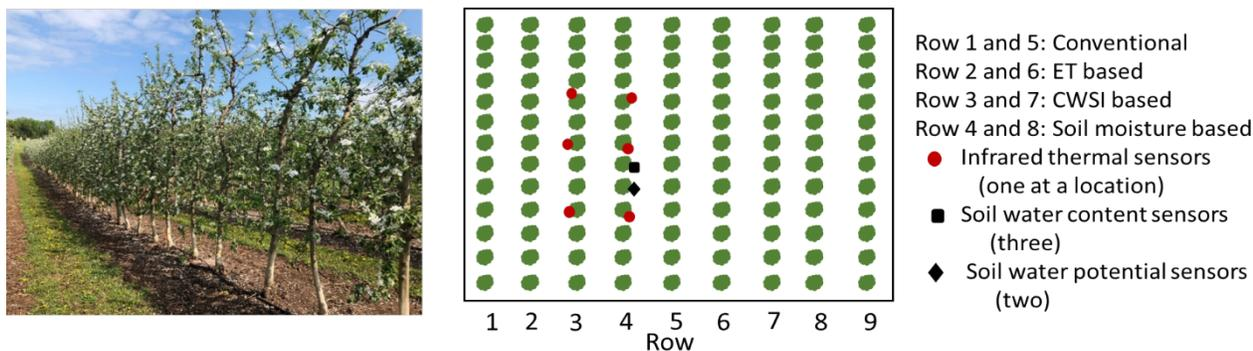

Figure 1. The experiment site and the treatments setup for sensor-based irrigation test
A sensor-based irrigation test was conducted at Fruit Research and Extension Center research orchard at Biglerville, PA. This is a 0.9-acre Fuji block, located at a location with relative high elevation. Figure 2 shows the research Fuji block with drip irrigation system. There are total nine row of apple trees. The emitter space along the tube is 24 inches, the size of the tube is 0.5 inch. Figure 1 shows the layout of the experimental design. Four irrigation treatments were designed, and two rows of trees were used for each treatment. The treatments include conventional method which is determined by the experience of the operator; ET based irrigation, which was based on the calculation of the daily based ET and rainfall; crop water stress based irrigation, and soil moisture sensor based irrigation.
In recent years the occurrence of frequent, intense summer thunderstorms in many growing areas in the Midwest, Northeast and Mid-Atlantic regions have contributed to a high incidence of bacterial spot in processing and fresh market tomatoes. Bacterial spot is one of the most common and important bacterial diseases in these regions, and is also seedborne, so management has to start before seeds are planted in the greenhouse. Once bacterial spot becomes established in the field, it is not possible to control it under conditions that are favorable for the disease, the most critical of which is an overabundance of moisture. Bacterial spot is also favored by higher temperatures. It can cause defoliation and deep fruit spotting on tomatoes. Fruit lesions vary in size but are generally large, deep and rough to the touch (Fig. 1). The particularly large, deep, star-shaped lesions (Figure 1D) cause serious problems on processing tomatoes as they are not removed during the normal peeling process. On tomatoes the disease is caused by up to four species of *Xanthomonas*, including *X. gardneri*, *X. perforans*, *X. euvesicatoria* and *X. vesicatoria*.
Figure 1. Tomato seedlings with leaf spots (A), field tomato plant with bacterial spot lesions on peduncles, calyces and leaves (B) and fruit with bacterial spot lesions (C, D).